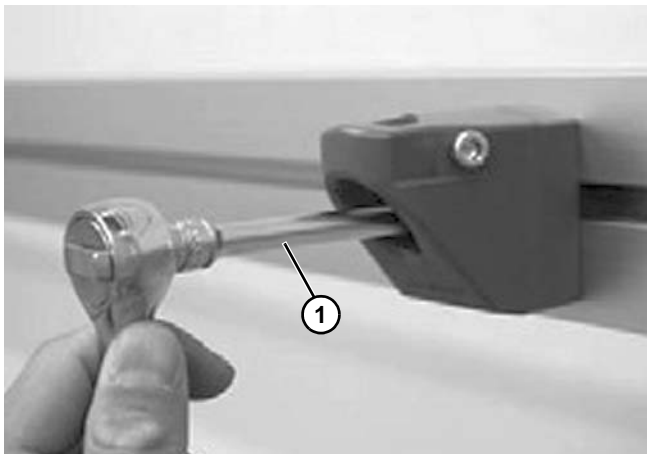

Figure 89
2. Attach the bracket onto conveyor beam and tighten with a socket wrench (Figure 89, item 1).